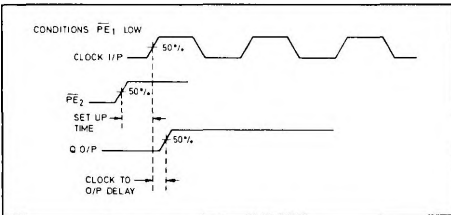

Fig. 3 Set-up timing diagram
- Set-up time is defined as the minimum time that can elapse between a L \rightarrow H transition of a control input and the next L \rightarrow H clock pulse transition to ensure that the $\bar{0}$ mode is forced by that clock pulse (see Fig. 3).